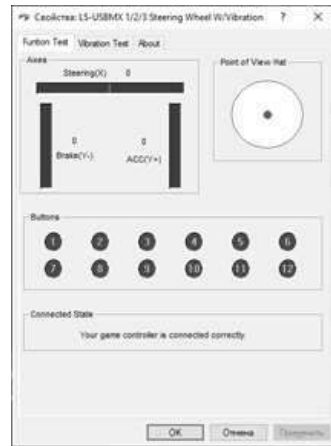
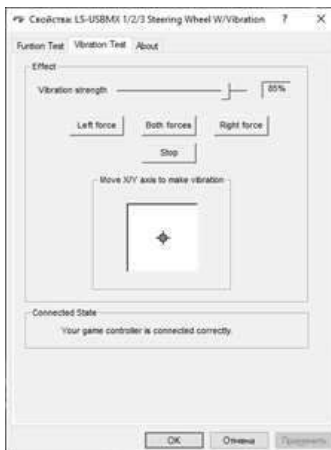

Fig. 6
Fig. 7
- Click on «Properties» button on the PC display «Properties: LS-USBMX 1/2/3 Steering Wheel W/ Vibration» window will appear (see Fig. 6). Here you can check the operation of the axes and keys, check and adjust the vibration feedback «Vibration Test» (see Fig. 7).